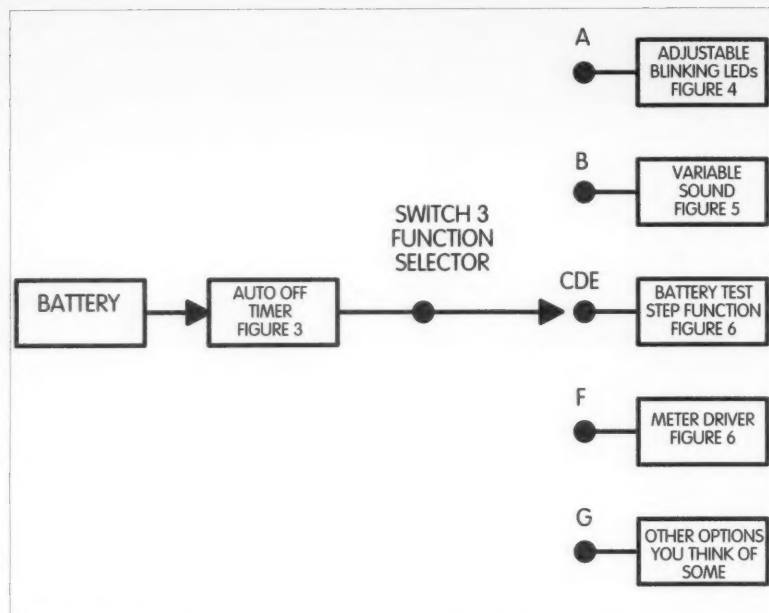

Fig. 1. Block diagram.
Fig. 1 breaks down the Box into its individual blocks. It consists of (1) the battery; (2) the time delay/auto turn-off switch; (3) the blinking LEDs; (4) the sound generator; (5) the battery tester; (6) the meter driver; and (7) other options—something else that you want it to do. You will see how each basic building block works, and then put the whole system together. Of course, if you have more interest in getting it together than in how it works, skip to the construction section right away.